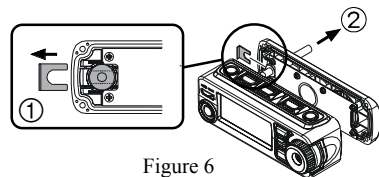

Figure 6
5. Remove the Binding Plate from the Rear Case (Figure 6-①), and then pull out the Connection Cable from the Rear Case (Figure 6-②).